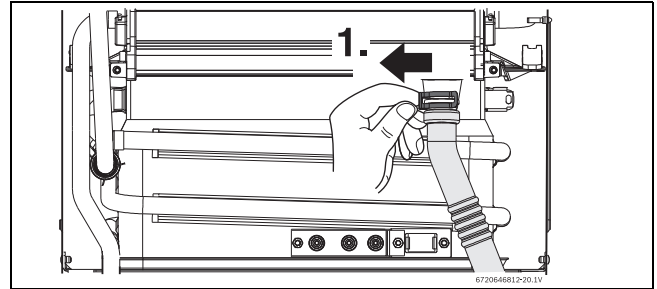

Fig. 39 Disconnect drain tube
- ▶ Remove the clip and disconnect the drain tube, see fig. 39.